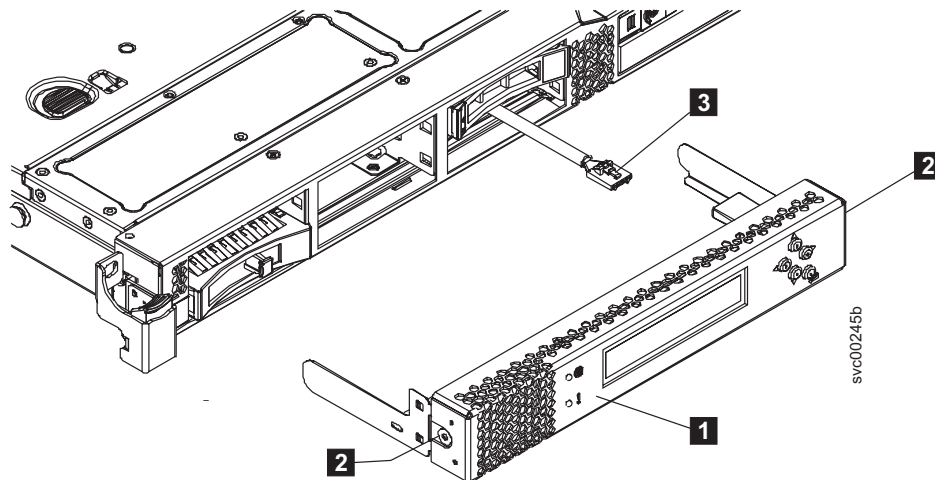

Figure 75. SAN Volume Controller 2145-CG8 or 2145-CF8 service controller
9. If you are intending to replace the service controller FRU, detach the USB cable, shown by **3** in Figure 75 on page 88, from the service controller.